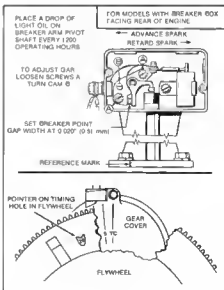

FIGURE 3-63. MCCK IGNITION TIMING
Ignition breaker points, Figure 3-63, must be correctly gapped. Crank engine to fully open breaker points (1/4 turn after top center). Loosen locking screws (A) and turn cam (B) to adjust. Tighten breaker points and recheck gap. Correct point gap is .020 inch (0.51 mm) measured with a flat thickness gauge.